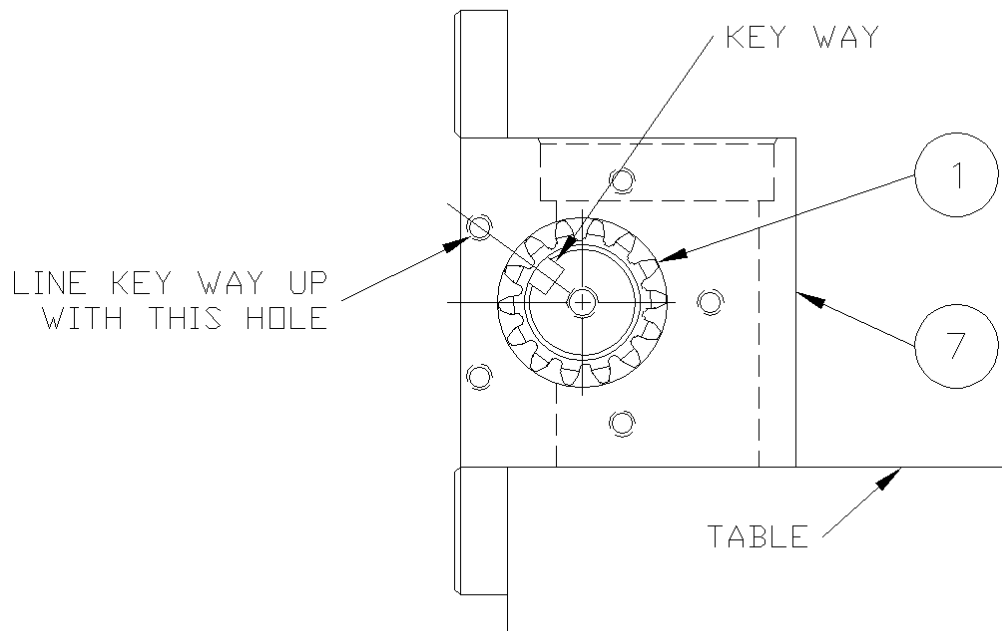

Figure C-4
4. Place the actuator body (7) (Figure C-4) on the edge of the table, mounting flanges closest to the assembler with the counter-bores facing up. Insert the pinion shaft (1) through the bore on either side of the actuator body with the key ways facing back toward the mounting flanges and up away from the table with the center line of the key ways pointing toward the center of the tapped hole shown in Figure C-4. Center the pinion in the actuator body.